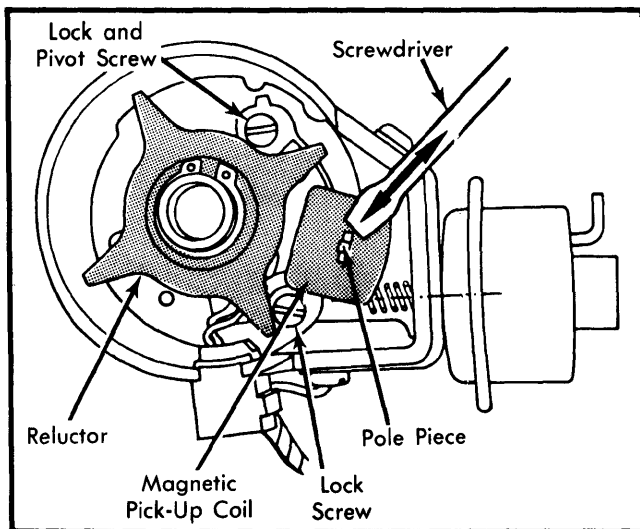

Fig. 4 Reluctor Position When Making Sparking Test
Reluctor-to-Pick-Up Coil Air Gap — Loosen both magnetic pick-up coil mounting screws. See Fig. 4. Position reluctor tooth in line with pick-up coil pole piece. Insert a non-magnetic feeler gauge of the proper thickness (.016" or .40 mm) between one reluctor tooth and pole piece. Pivot pick-up coil against feeler gauge and tighten both screws. Air gap should be .012-.020" (.30-.50 mm).
1) Remove distributor cap and position reluctor with one tooth on each side of the pick-up coil pole piece. See Fig. 4. Remove the high tension lead from the distributor cap and turn the ignition switch "ON".